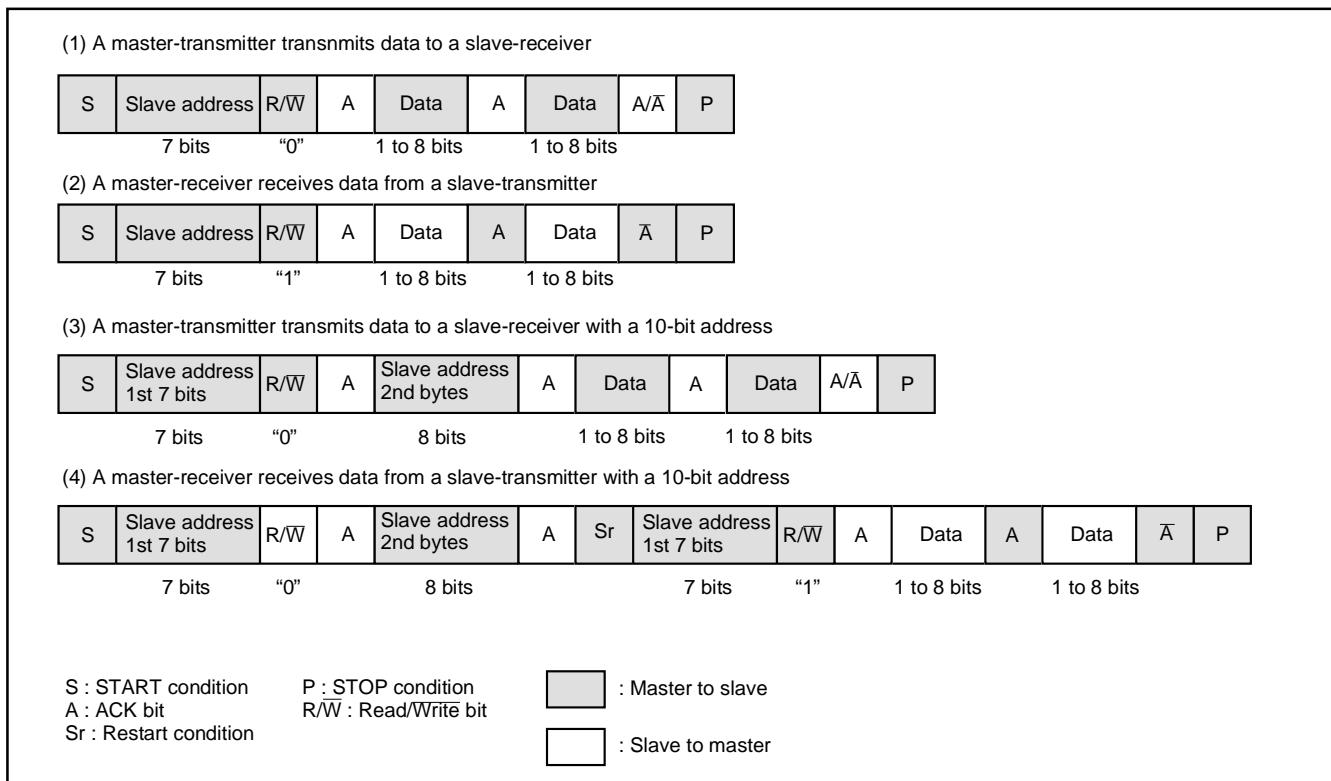

Fig. 39 Address data communication format
(1) 7-bit addressing format
To adapt the 7-bit addressing format, set the 10BIT SAD bit of the I²C control register (address 002E16) to “0”. The first 7-bit address data transmitted from the master is compared with the high-order 7-bit slave address stored in the I²C address register (address 002C16). At the time of this comparison, address comparison of the RWB bit of the I²C address register (address 002C16) is not performed. For the data transmission format when the 7-bit addressing format is selected, refer to Figure 39, (1) and (2).
(2) 10-bit addressing format
When the first-byte address data agree with the slave address, the AAS bit of the I²C status register (address 002D16) is set to “1”. After the second-byte address data is stored into the I²C data shift register (address 002B16), perform an address comparison between the second-byte data and the slave address by software. When the address data of the 2 bytes agree with the slave address, set the RWB bit of the I²C address register (address 002C16) to “1” by software. This processing can make the 7-bit slave address and R/W data agree, which are received after a RESTART condition is detected, with the value of the I²C address register (address 002C16). For the data transmission format when the 10-bit addressing format is selected, refer to Figure 39, (3) and (4).